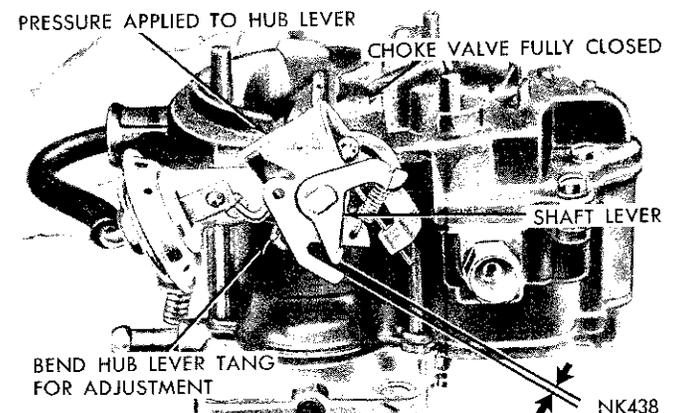

Fig. 25—Spring Staged Choke Clearance
The new spring staged choke, shown in (Fig. 25) is a device incorporated in the choke mechanism which limits the choke blade closing torque when cranking the engine at temperatures below zero. Thus the spring staging of the choke is a better match for the engine's starting mixture requirements at the low
To check the spring staged choke for correct operating clearance, refer to (Fig. 25), then proceed as follows:
(1) Push on the hub lever with the finger, at the closed choke position. A small opening should exist between the shaft and the hub levers, as shown in (Fig. 25).
(2) Using a drill or gauge, measure the opening. The opening should be from .010 to .040 inches.
(3) If an adjustment is necessary, bend the hub lever tang until the correct opening has been obtained.